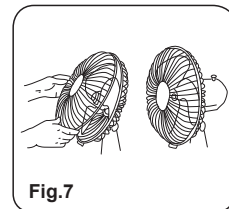

Fig.7
3. Fix the front guard and the rear guard with circlip and then use the fastener clip to tighten the fan guard. (Figure 7)